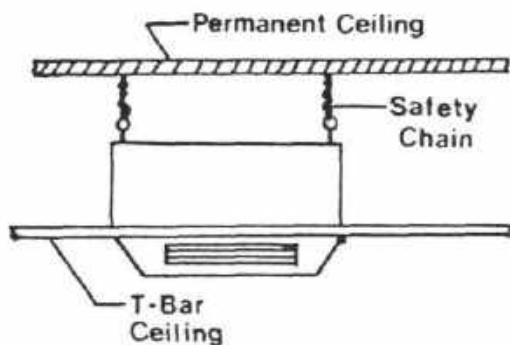

FIG. 4
- 8) Attach proper length of chain to each eyebolt in cabinet, raise unit and secure chain to mounting devices in permanent ceiling or joists. (See Fig. 4)